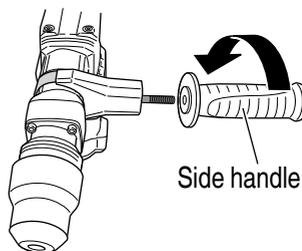

Fig. 5
- (4) Adjusting the band to a position that is suitable for the task, turn the side handle to fasten the band. Make sure that the band is securely fastened. (**Fig. 5**)